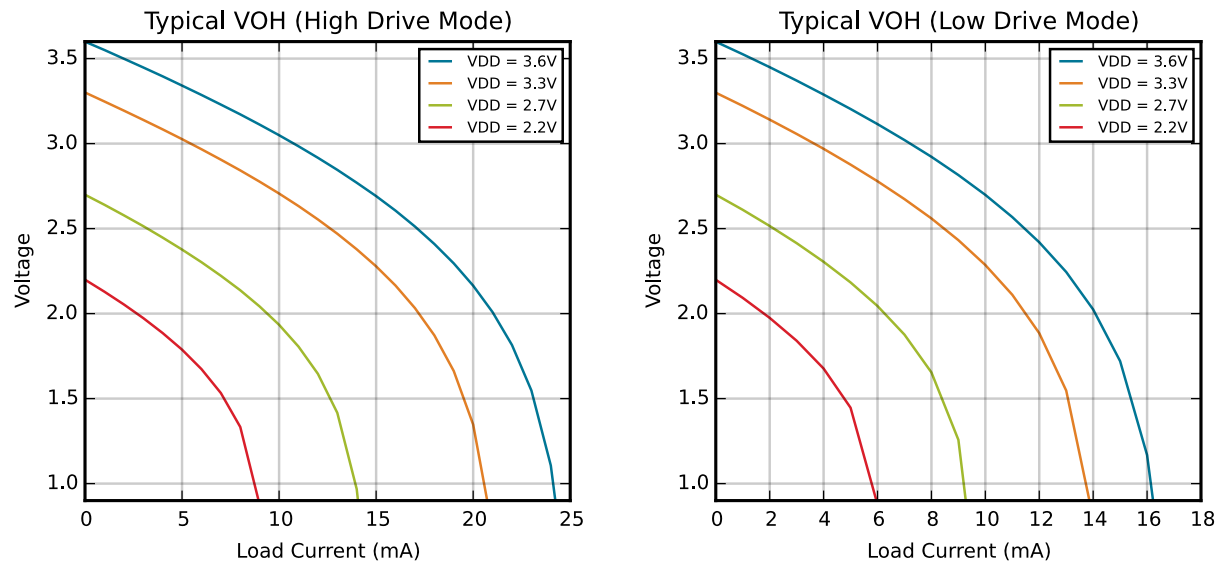
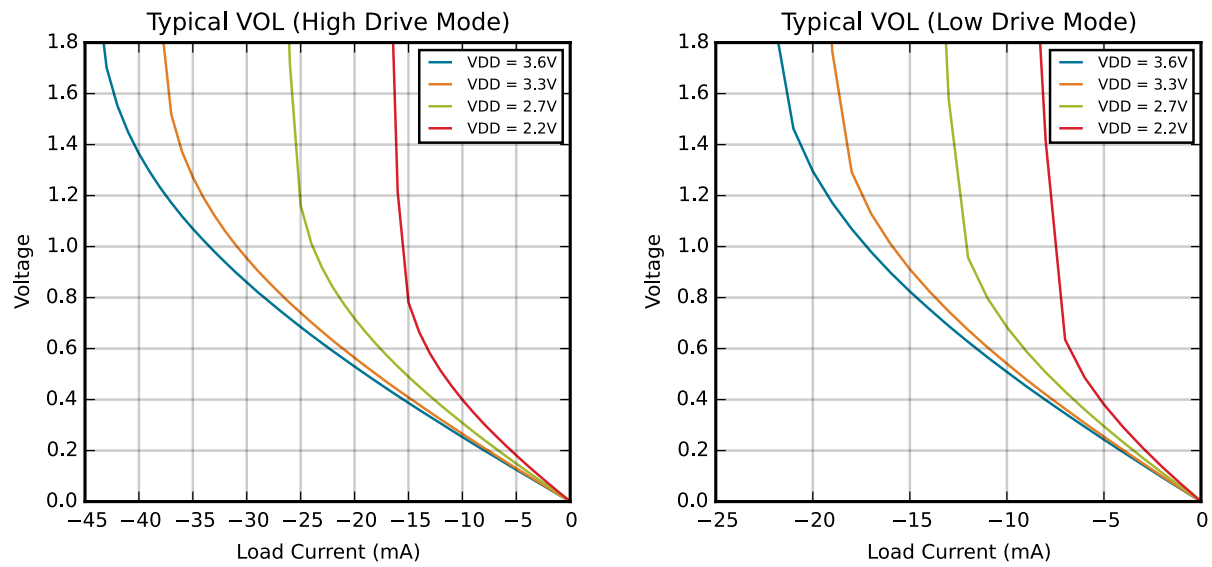

Figure 4.6. Typical V_{OH} Curves
Figure 4.7. Typical V_{OL} Curves
- See Figure 4.6 Typical V_{OH} Curves on page 28 and Figure 4.7 Typical V_{OL} Curves on page 28 for more information.
Updated VOH and VOL graphs in Figure 4.6 Typical VOH Curves on page 28 and Figure 4.7 Typical VOL Curves on page 28 and updated the VOH and VOL specifications in Table 4.14 Port I/O on page 23.